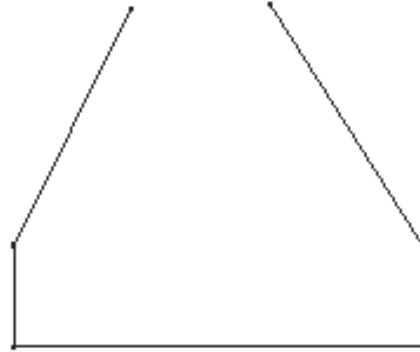

Figure 1-28 Left and right inclined lines
9. Use the left mouse button to start an inclined line from the endpoint of the last vertical line. Size the line and specify the end point of the line. The inclined line is shown in Figure 1-28. Press the middle mouse button to end line creation. The **2 Points** option is still active.
- Use the left mouse button to start an inclined line from the start point of the first vertical line. Size the line approximately and specify the endpoint of the line. Press the middle mouse button to end line creation. The two inclined lines are shown in Figure 1-28.